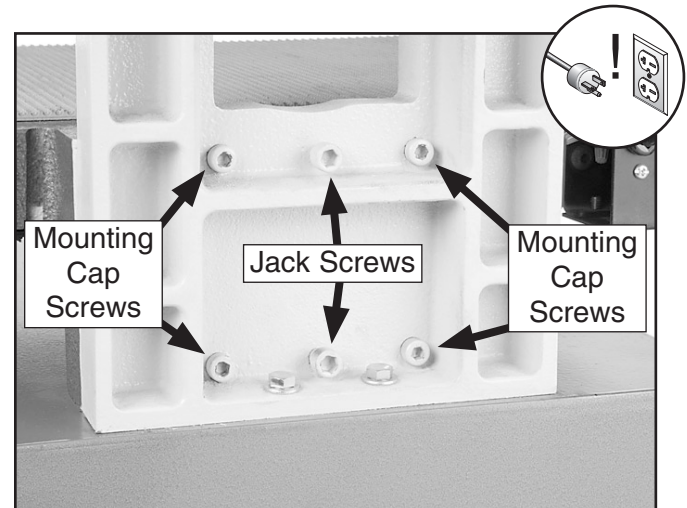

Figure 36. Column mounting cap screws and jack screws.
1. Loosen the four mounting cap screws on the right side of the column base shown in **Figure 36**.